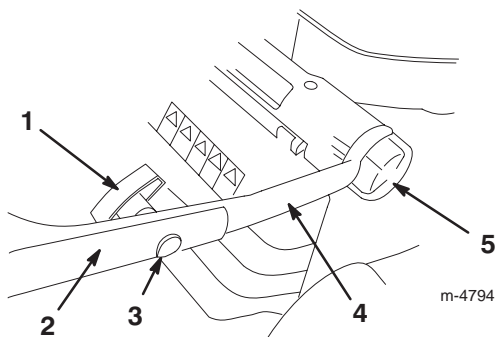

Figure 2
1. Loosen the handle height adjustment knobs and rotate the lower handle toward the rear of the lawn mower until it seats into one of the handle height settings as shown in Figure 2. To set the handle height, refer to Adjusting the Handle Height on page 6.
3. Install the upper handle section onto the lower handle section with the oval-head bolts and the handle knobs as shown in Figure 2. **Tighten the handle knobs securely.**
You can set the handle to 3 height settings: high, medium, and low (Fig. 2). Select the handle height setting most comfortable for you.